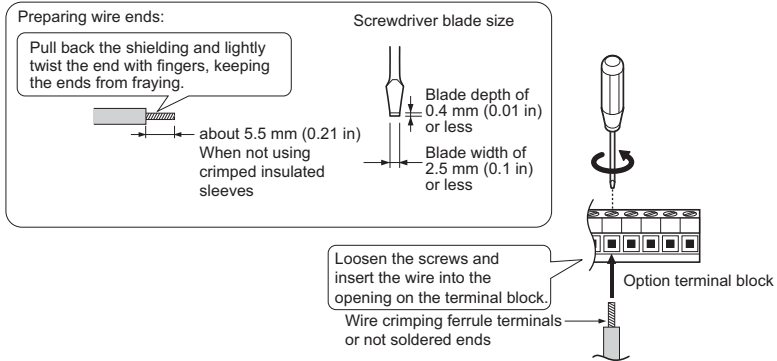

Figure 15 Connect Cable Wiring
5. Wire the customer-supplied circuit to the terminal blocks on the option according to **Figure 15**. Refer to **Figure 26** for the DO-A3 Option connection diagram. Refer to **Table 5** for a detailed description of the option terminal functions.